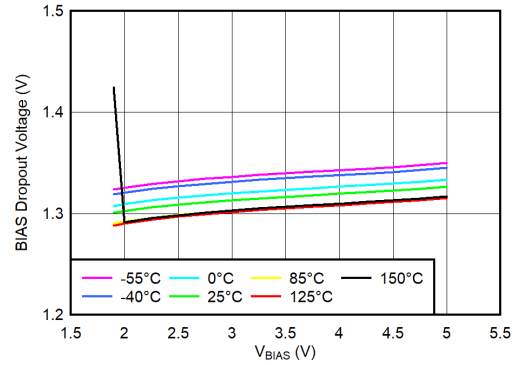

图 6-29. V_{IN} Dropout Voltage vs (V_{BIAS} - V_{OUT}) and Temperature (T_J)
- (1) Adjustable devices tested at 0.8 V; resistor tolerance is not taken into account.
(2) Dropout is defined as the voltage from V_{IN} to V_{OUT} when V_{OUT} is 3% below nominal.
(3) 3.25 V is a test condition of this device and can be adjusted by referring to Figure 6-29.